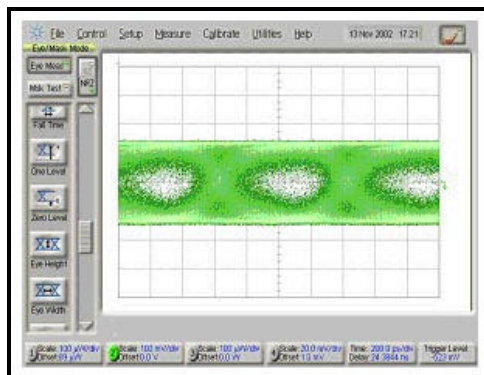

Fig.8 – Particles in OSA
2. Examine the surface of the OSA lens under high intensity light using a microscope or verify the optical signal and eye pattern quality (see *Figures 8 & 9*). If contaminants still remain, repeat the process.